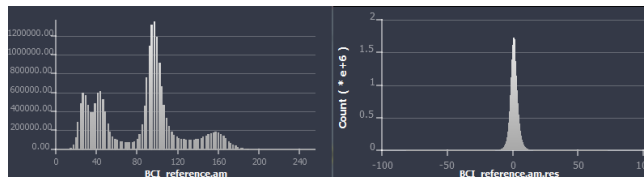

Figure 23.13: Histogram of the Reference Volume (left) and Residual (right)
- Click **Apply** for both (see result on Figure 23.13).